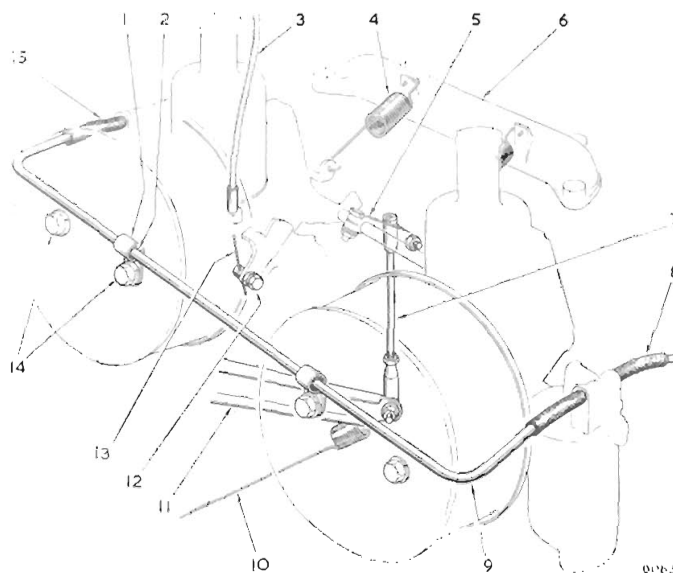

Fig. 17. Carburettor fuel pipe and control details
**Carburettor Removal (Fig. 17)**
1. Remove the air cleaners and disconnect the mixture enrichment cable (3), throttle control rod (7), throttle return springs (4), and fuel feed pipes (8) and (9).